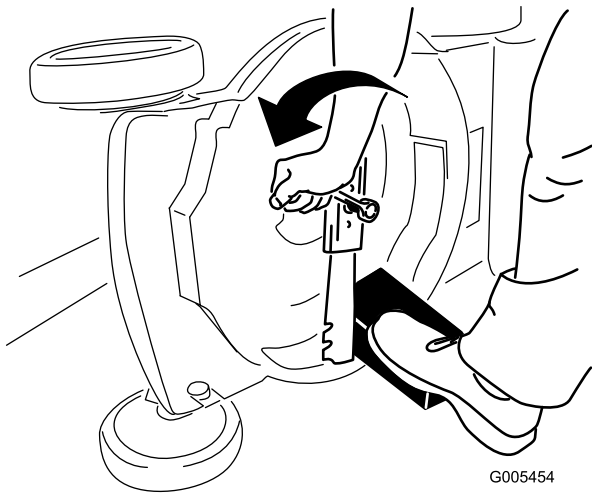

Figure 52
3. Use a block of wood to hold the blade steady (Figure 52).
4. Remove the blade, saving all mounting hardware (Figure 52).